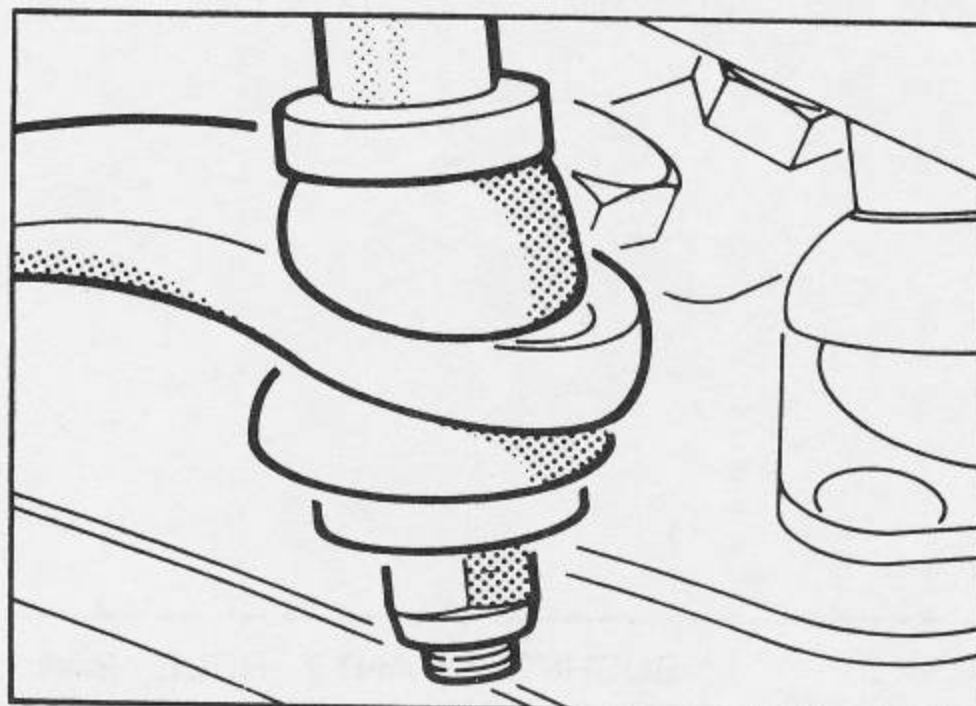

Fig. 52
3. Disconnect the anti - roll bar link arm from the leading link. Fig.52